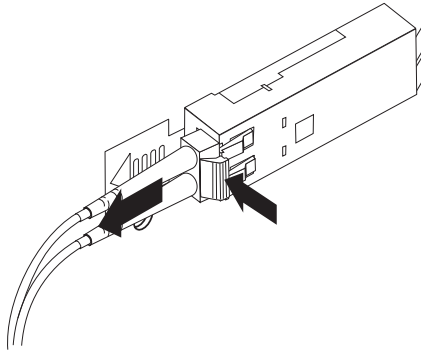

Figure 34. Removing the LC-LC Fibre Channel cable
2. While pressing down the cable lever, carefully pull on the connector to remove the cable from the SFP module, as shown in Figure 34.